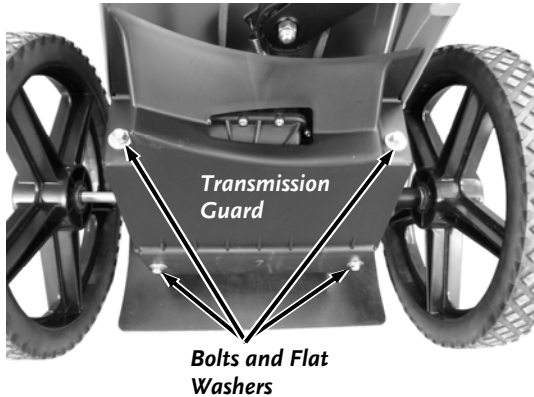

Figure 34
4. Remove the four Transmission Cover Bolts and Flat Washers with a 3/8" Wrench. Remove the Transmission Cover (Figure 34).
22. Install the Transmission Cover and secure with the four Bolts and Flat Washers using a 3/8" Wrench (**Figure 34**).